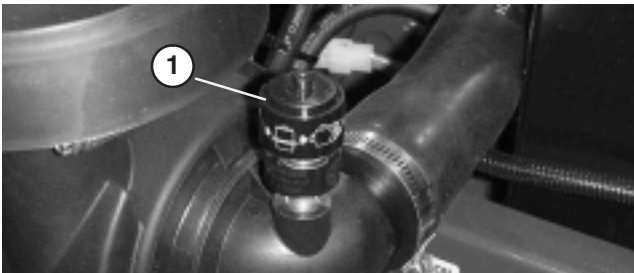

Figure 40
2. Service the air cleaner filters when air cleaner indicator (Fig. 40) shows red or every 400 hours (more frequently in extreme dusty or dirty conditions). Do not over service air filter.
- 7. Reset indicator (Fig. 40) if showing red.